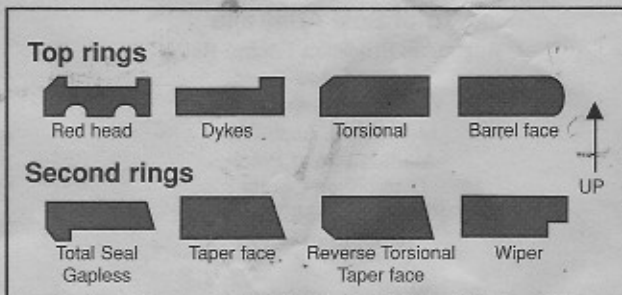

Fig. 3
- 4) Rings without dot or inner bevel install either side up (see fig. 3).
- 1) Install rings with marked side up (see fig. 3).